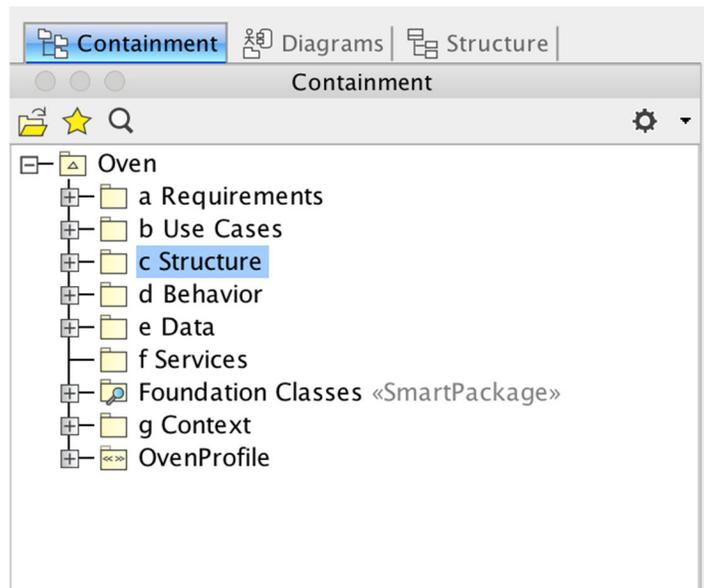

Figure 4. Model Organization for the Microwave Oven Example.
The model structure shown in Fig. 4 is created by right clicking the root Package in the Containment Tree, selecting Create Element > Package, naming the new Package, and repeating to complete the structure. This is a Browser screen shot from the microwave oven example.
- The Browser in Fig. 4 includes a Profile named OvenProfile to hold stereotypes defined for this system. Dedicated Packages (or, if you prefer, subdirectories) for Requirements, Use Cases, and Data are very helpful in creating an effective model structure.